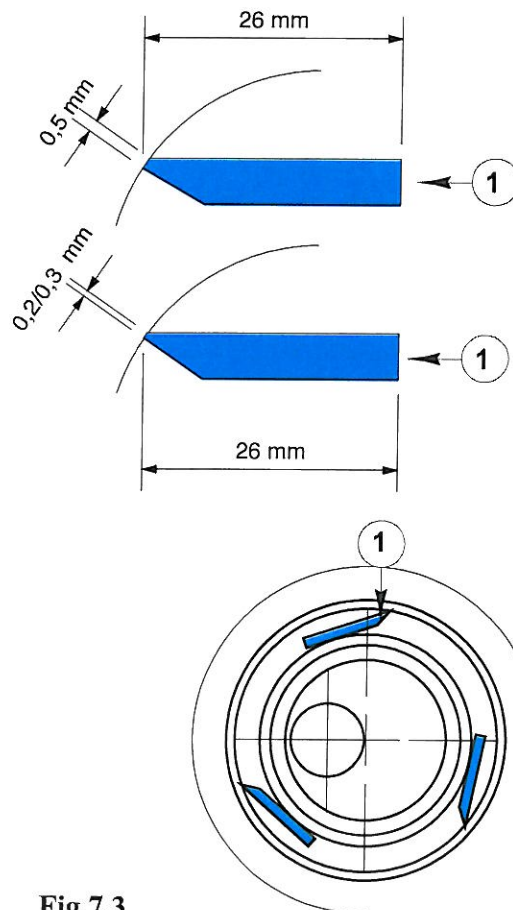

Fig.7.3
- **Scraper blades (Fig. 7.3)**
The blade may be sharpened, but this requires use of a special machine. The blade needs sharpening if the width of the cutting end exceeds 0.5 mm (Fig. 7.3).
After sharpening the thickness of the cutting edge must be minimum 26 mm (Fig. 7.3). If the width is lower it is necessary to replace the blades.
It is important to assemble the blades as shown in Fig. 7.3.